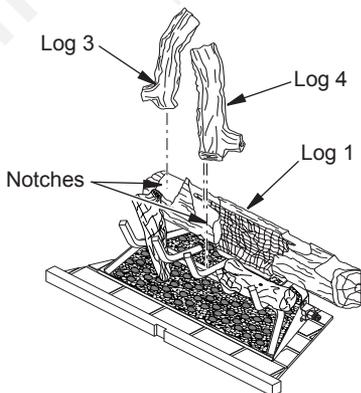
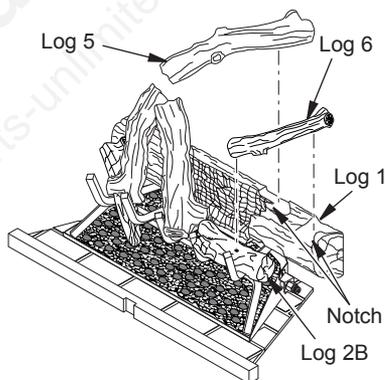
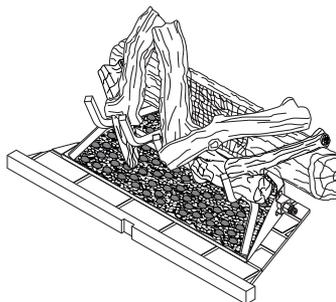

Figure 28 - Installing Logs 3 and 4
Figure 29 - Installing Logs 5 and 6
Figure 30 - Logs Installed for M42E, M42EP, VME42 and VM42EP Models
3. Place log 3 into notch on top left of log 1, resting lower end on left two grate fingers (see Figure 28).
4. Place upper end of log 4 into notch on log 1 as shown in Figure 28. Rest lower end of log 4 on the middle grate finger as shown in Figure 29.
5. Place upper end of log 5 into notch on top inner right of log 1 (see Figure 29). Rest lower end of log 5 on middle grate finger as shown in Figure 30.
6. Place log 6 into notch on top right of log 1 (see Figure 29). Rest lower end of log 6 on top of log 2B (see Figure 30).